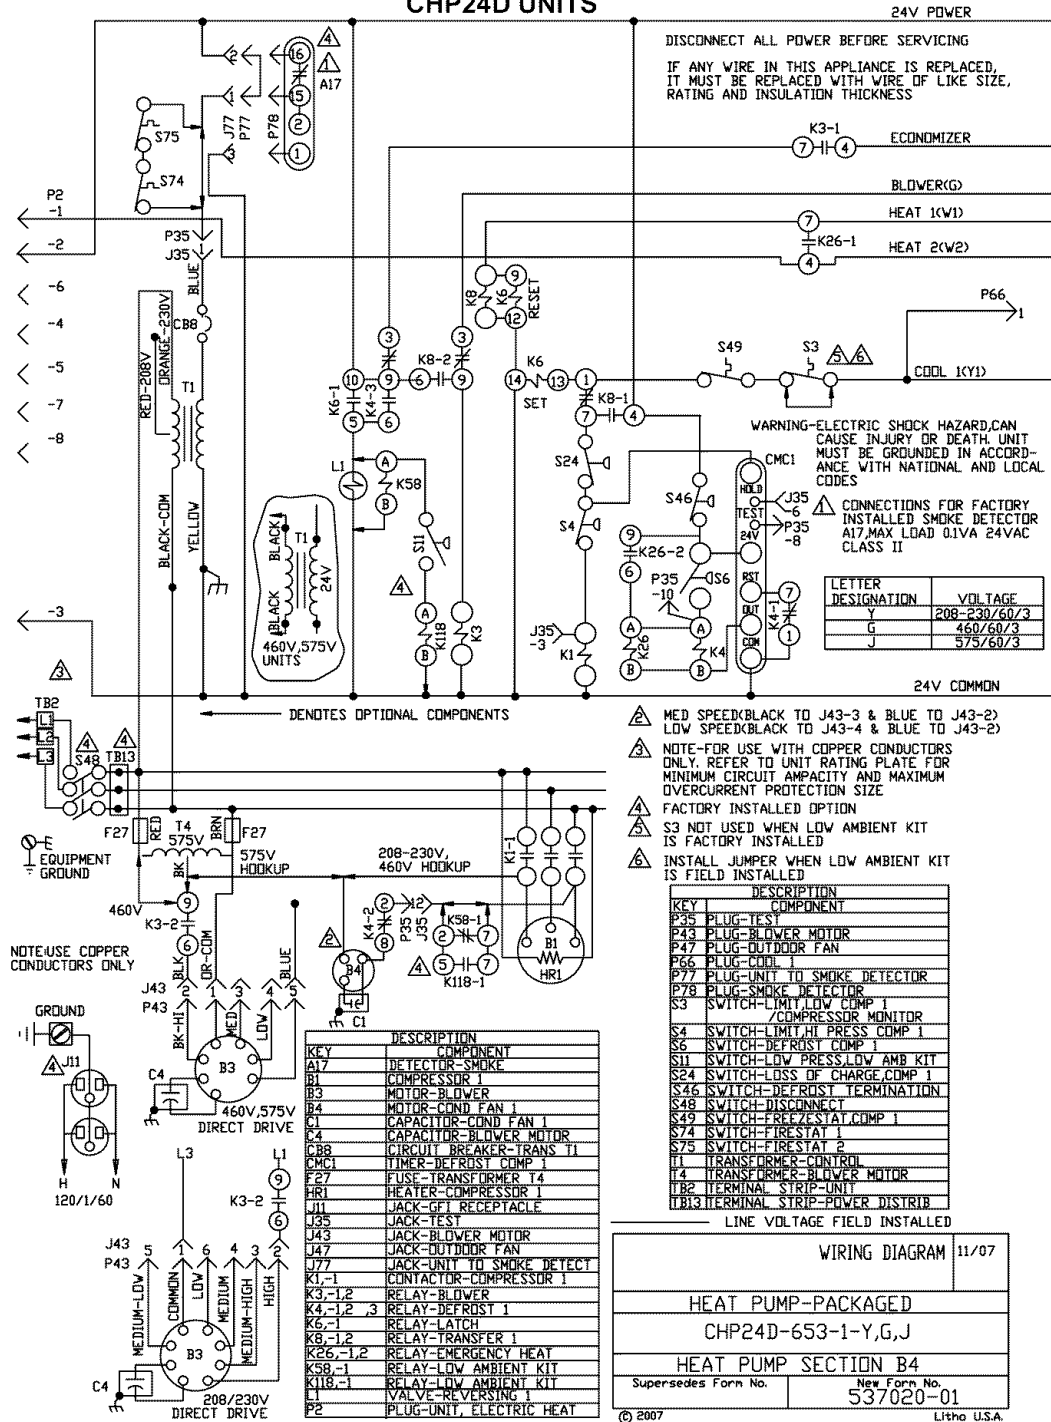

FIGURE 8
- 7 - Wire defrost components as shown in figure 5 and 6. Wires are identified in figure 7. Figure 8 shows terminal designations for older model Essex cube-style relays versus standard relays.